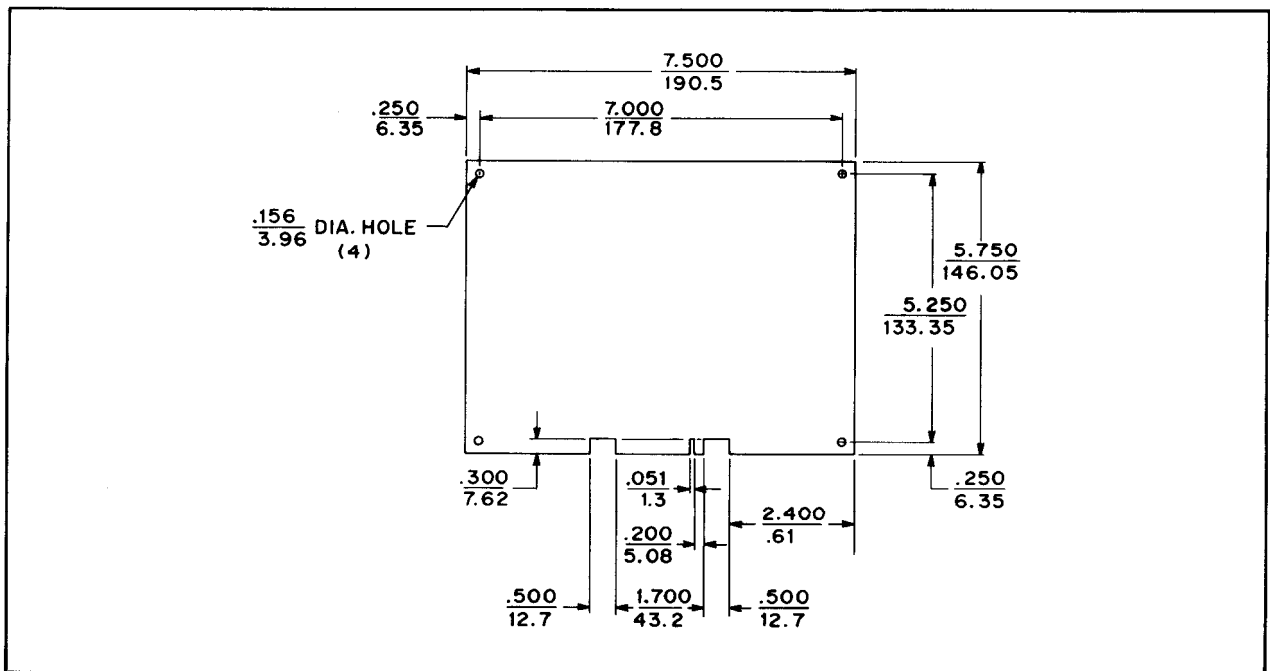

FIGURE 9: Main PC Board Dimensions (Typical CUSTOMISER II Kit Version Shown)
1. Refer to Figure 9 for mounting hole dimensions and other mounting information.